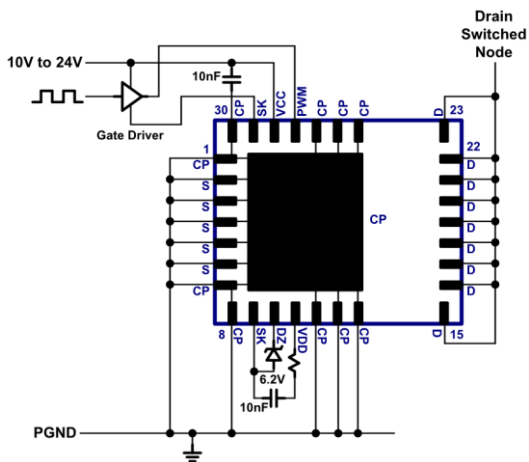

Fig. 23. SK pin connections
For high current and hard-switching CCM applications, high-frequency switching noise due to PCB layout parasitic inductance should be minimized as much as possible. To further reduce high-frequency noise, this GaN Power IC includes two Source Kelvin (SK) pins (pin 9, pin 29). The SK pins are on-chip kelvin contacts to the Source and are separate from the high current Source connections (pins 2-7). The GND connections for components  $C_{VDD}$  and  $D_Z$  should be connected to SK pin 9, and the GND connection for  $C_{VCC}$  should be connected to CP pin 30 (Fig. 23). SK pin 29 should be left unconnected (N/C). When using an external gate drive buffer for PWM, the GND of the external gate drive buffer should be connected to the SK pin 29. This will minimize any possible high frequency voltage spikes from occurring at the PWM input during switching.